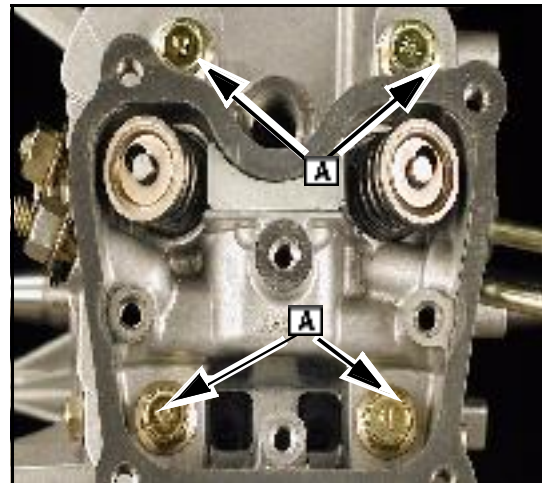

Fig. 6
- Remove four cylinder head bolts ([A] Fig. 6) and lift off cylinder head.